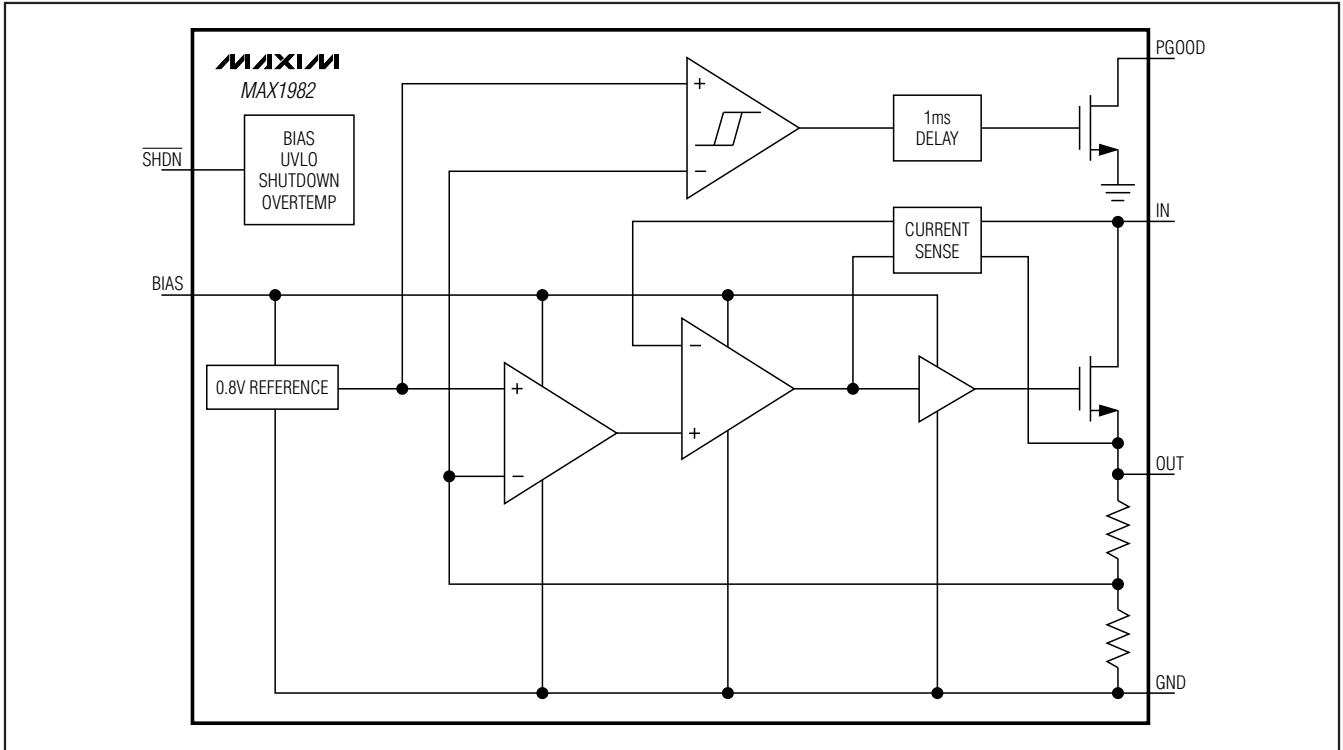

Figure 1. MAX1982 Functional Diagram
The MAX1982/MAX1983 are low-voltage, low-dropout linear regulators with an external bias supply input (see Figures 1 and 2). BIAS is powered by a 4.5V to 5.5V supply that is commonly available in laptop and desktop computers. The 5V bias supply drives the gate of the internal pass transistor, while a lower voltage input at the drain of the transistor (IN) is regulated to provide V_{OUT} . Separating the bias input voltages yields higher efficiency. These devices are ideal for applications that require low-voltage outputs from low-voltage inputs. The MAX1982 delivers 1.2V ($\pm 3\%$) at 300mA from an input voltage of 1.25V to 5.5V. The MAX1983 delivers an adjustable output voltage from 0.8V to 2V.